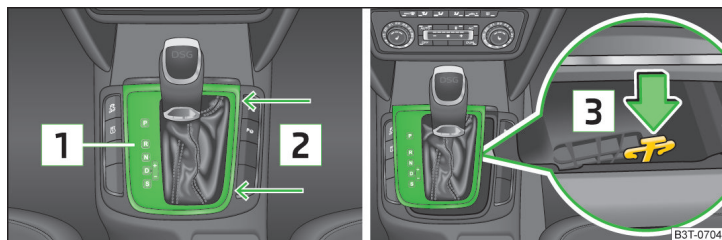

Fig. 192 Selector lever-emergency unlocking
- Grasp the cover [1] in the area of arrow [2] » Fig. 192 and carefully pull upwards.